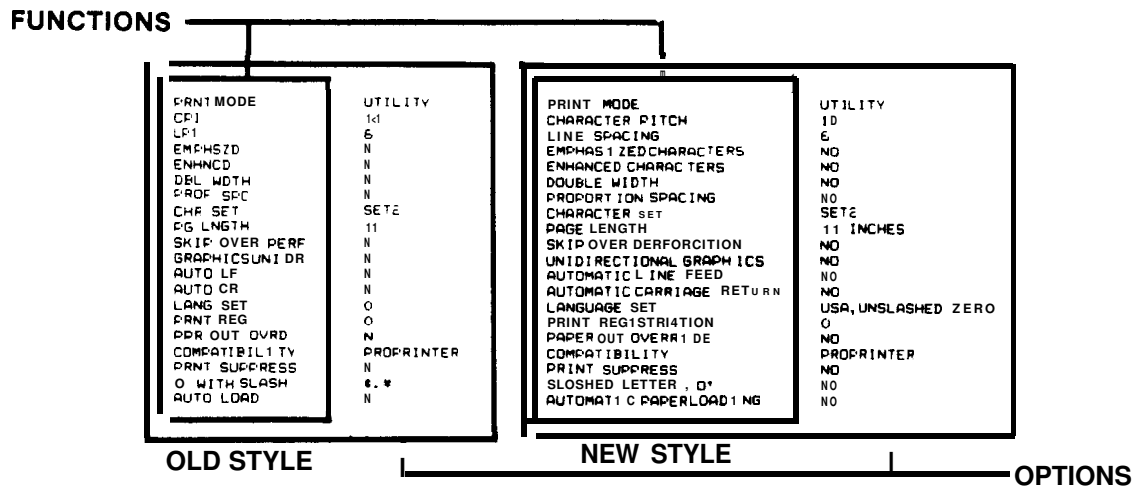
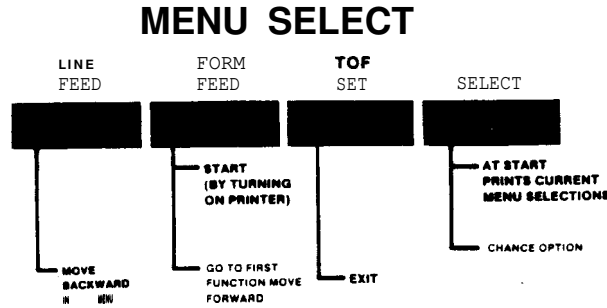

Figure 6-5. Printer Options
Figure 6-6. Reference Diagram
3. Press the **SELECT** button. The printer will print one of the two option lists (see Figure 6-5). This list is how the printer was set when it left the factory. You might have to change the factory setting to agree with the appropriate list below.
4. To set the options for each function as shown above, press the **FORM FEED** button to begin with the first function (**PRNT MODE** or **PRINT MODE**) and to move down the menu. Use the **SELECT** button to select the proper option (see appropriate Menu in Figure 6-5 for option settings). Figure 6-6 shows the Printer's control switches and their functions.
The following reference diagram (figure 6-6) provides information on using the Printer Menu Select mode and line feed feature.
4. A test pattern (figure 6-6) similar to that below will printout. To stop the self test, turn OFF the Printer or press the SEL button to Select the Printer.